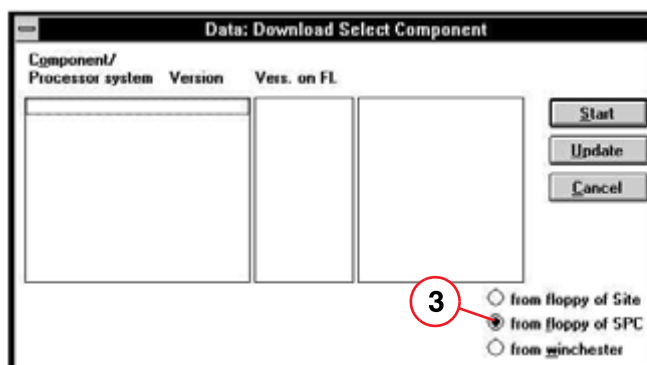

Fig. 27:
- Select the radio button **from the floppy of SPC** (3/ Fig. 27 / p. 47).